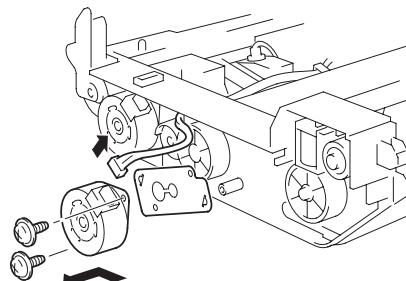

Figure 4-54. Removing the Duplex Unit Transport Motor
3. Disconnect the one connector. (See Figure 4-54)